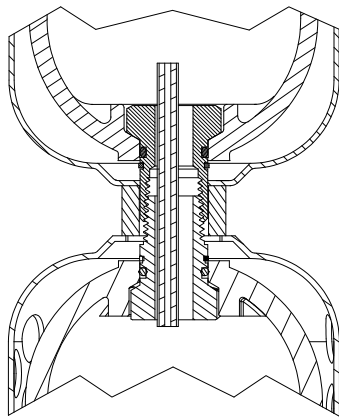

Figure 1. Hydro-Jector installed on Filter
3. For Plastic Bowl Filters: Install the Hydro-Jector by turning Adaptor (3) clockwise into the fitting at bottom of Filter Bowl with Spacer (2) as shown in Figure 1.
4. For Metal Bowl Filters: Install the Hydro-Jector by turning Adaptor (3) clockwise into the threaded port on bottom of Filter Bowl. The Spacer (2) is not needed.
5. DO NOT bend, crimp, or obstruct Vent Tube (1)